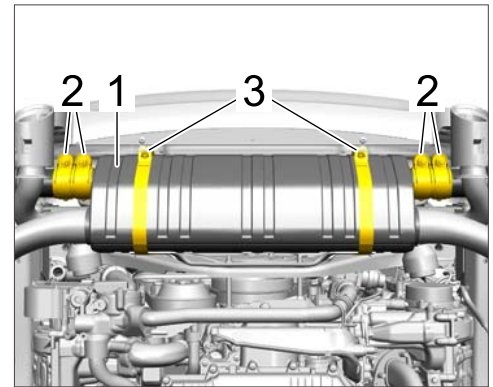

Figure 43
- 5.7 Screw in M8 x 50 cheese head bolts ⇒ *Figure 43 -3-* as far as required on the restraining straps so that the front muffler ⇒ *Figure 43 -1-* can still be moved.